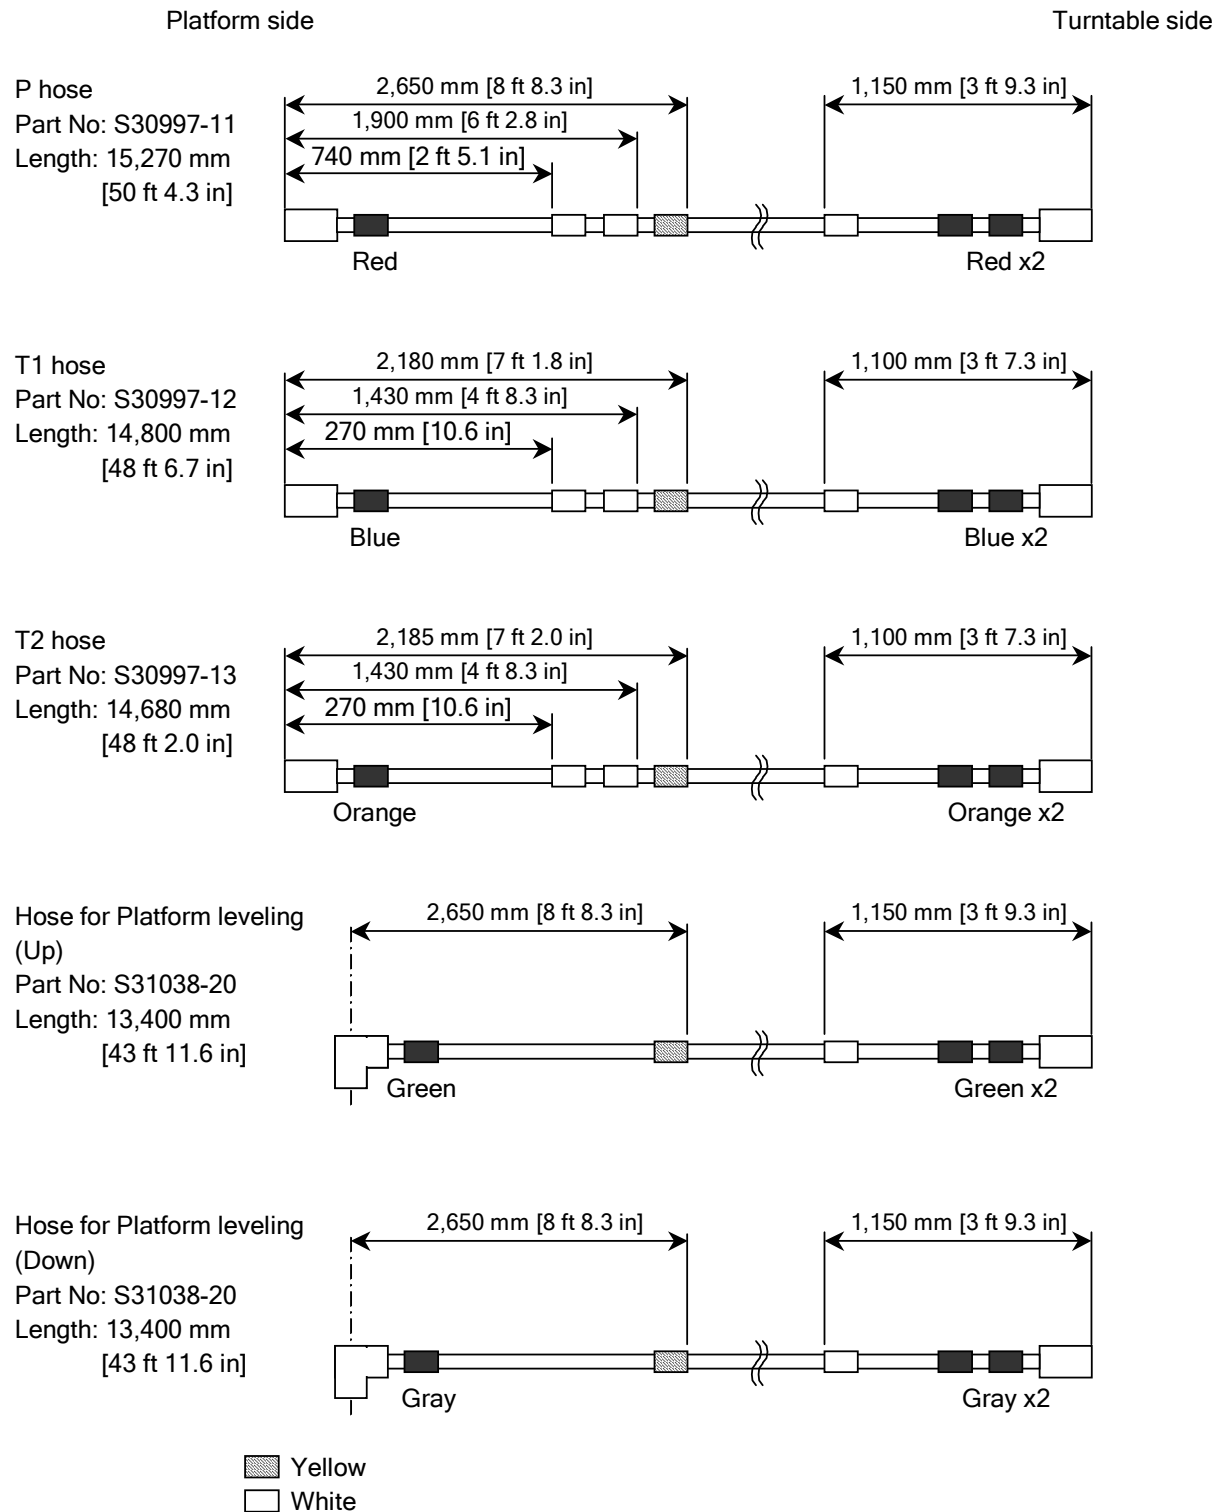
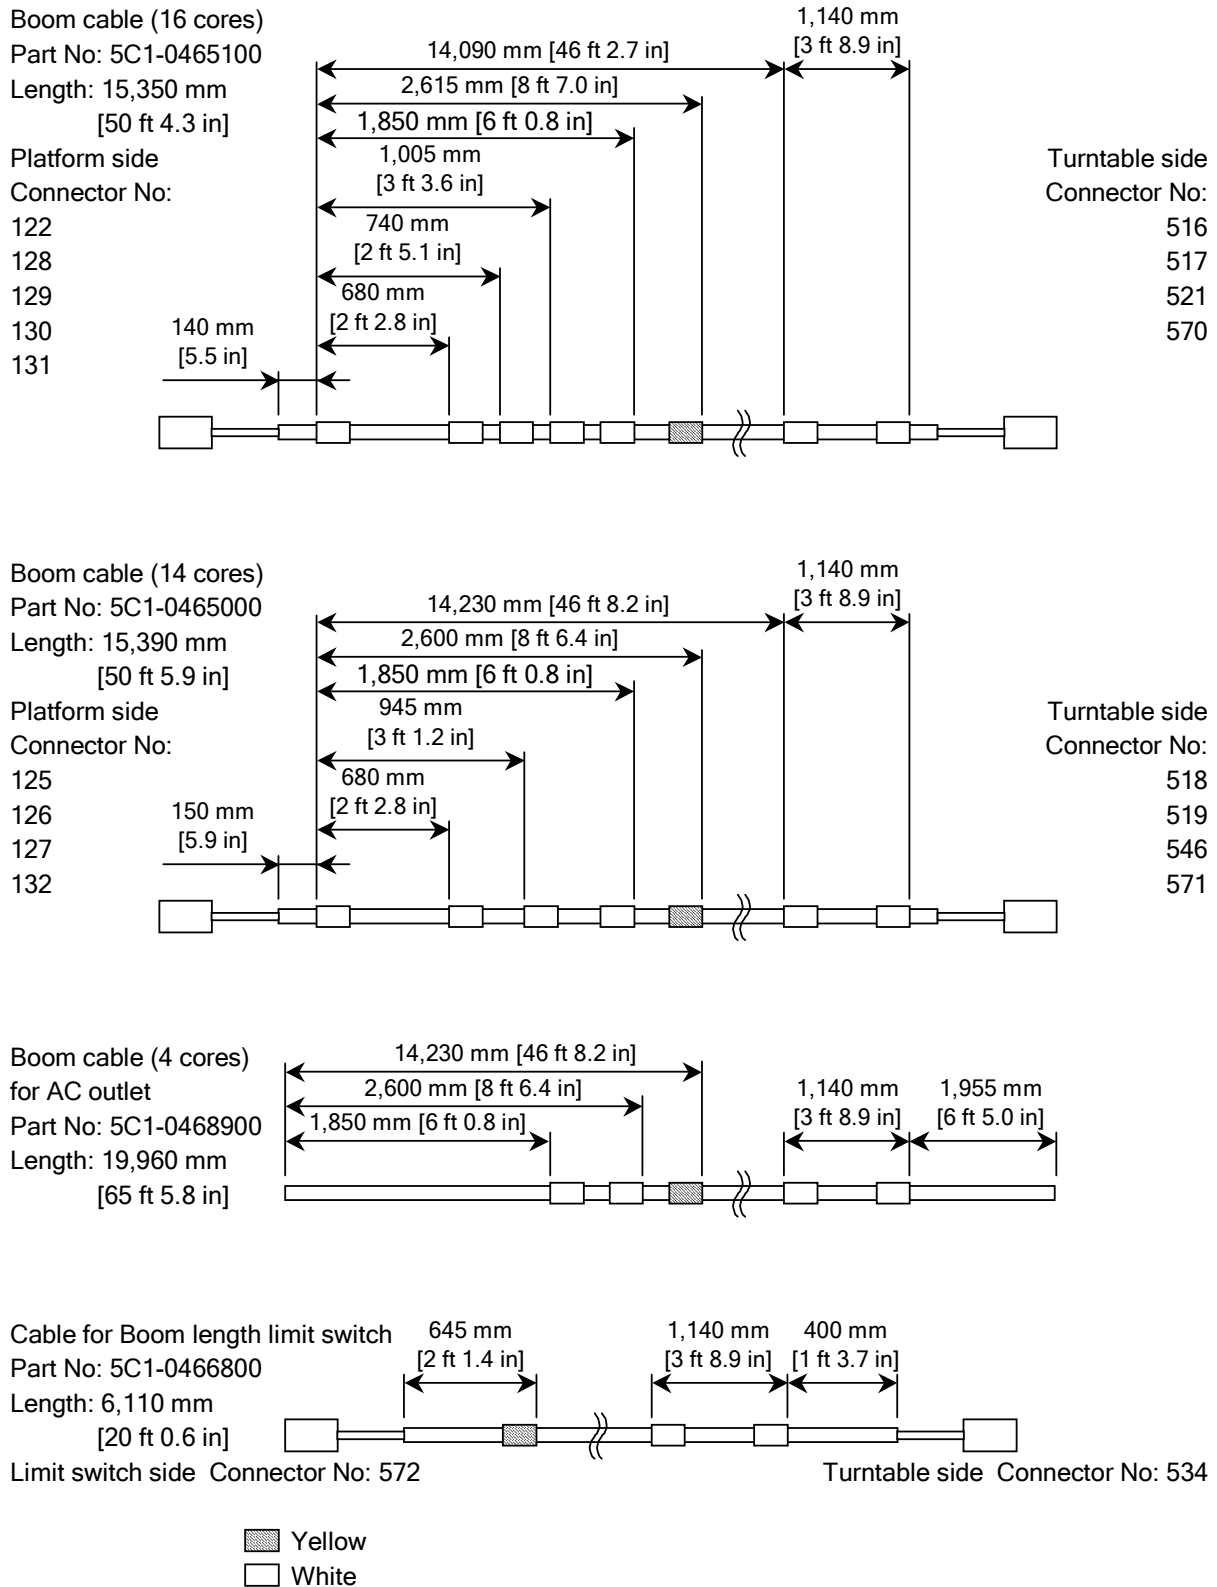

Fig. 2-55
Fig. 2-56
- 1) When replacing the boom cables and/or hydraulic hoses with new one, put the designated colored vinyl tape on them to identify each cable/hose and their specific position as shown in Fig. 2-55 and Fig. 2-56.